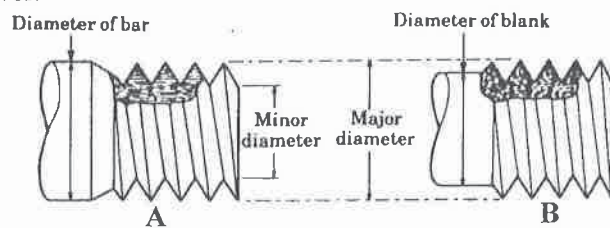

Figure Ro2
b) In figure Ro2, which thread is made by rolling? Justify your answer.